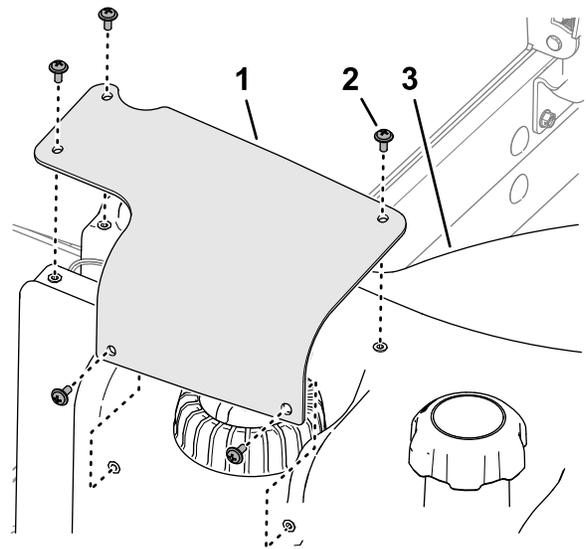

Figure 96
- 7. Align the holes in the fuel-sender cover with the holes in the fuel tank, and secure the cover to the tank with the 5 Phillips-head screws (Figure 96).